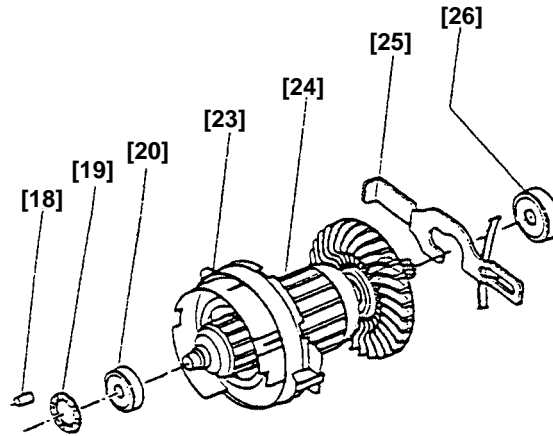

Fig. 5
(4) Removing the Housing Ass'y **[17]**
(5) Removing the Armature [24] (Fig. 5)